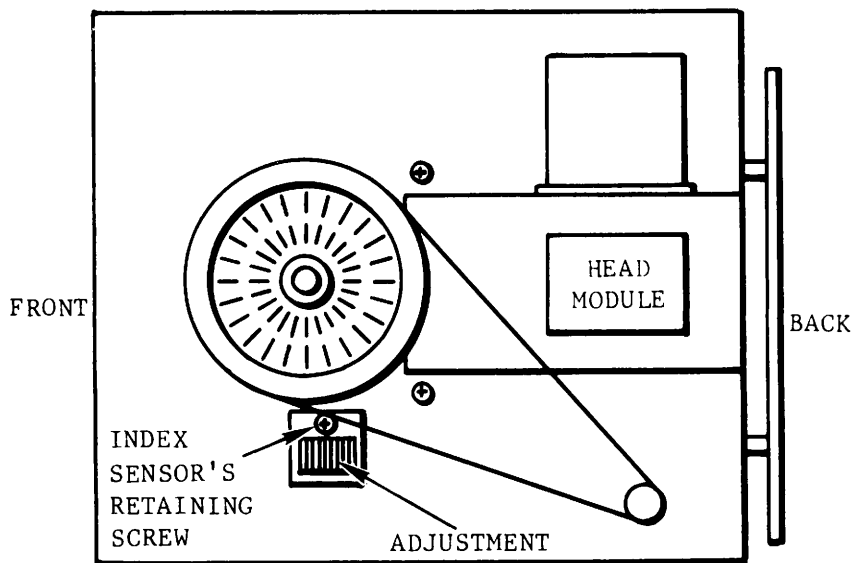

Figure 5-7. Index Sensor Retaining Screw and Adjustment
- 2) Loosen the Index-To-Data sensor retaining screw (See Figure 5-7) through the slot in the bottom cover 1/4 turn counterclockwise using a Phillips screwdriver.